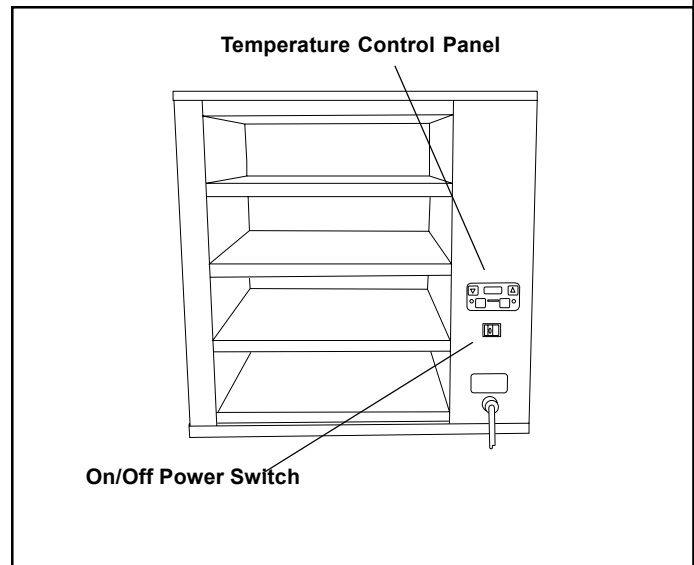

Figure 3. Parts Identification
4. Install the sandwich rack into one of the cavity locations (Figure 3).
5. Turn the power switch on (Figure 3). Allow 30 minutes for warm-up.